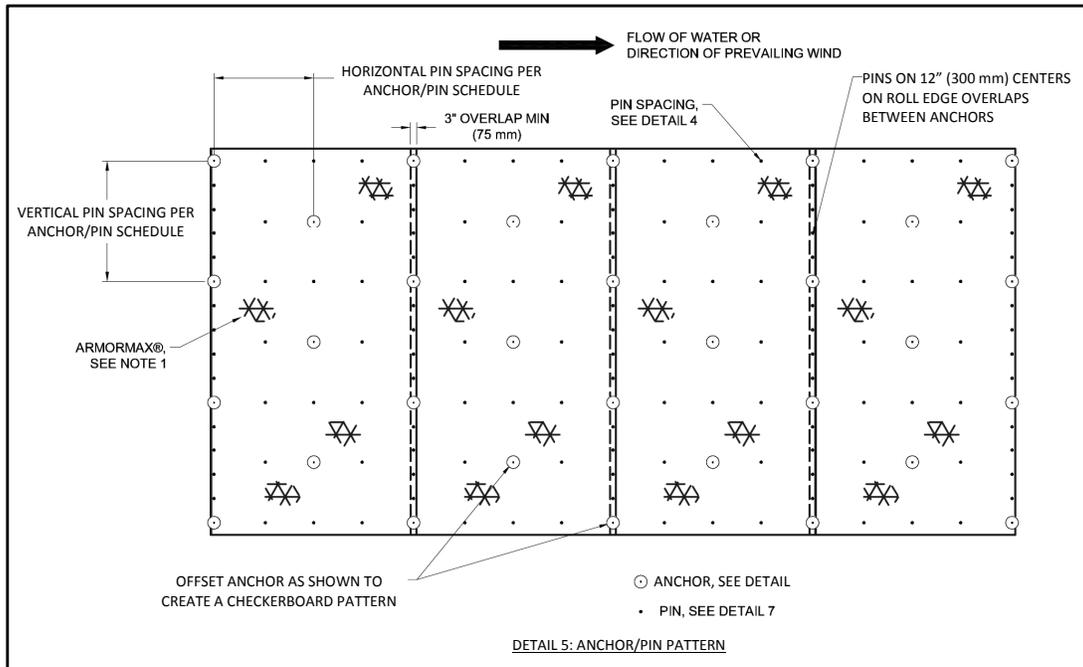

**Figure 6: Placement of ARMORMAX across Slope**
5. Unroll the ARMORMAX roll on the slope surface in the area to be armored (Figure 6). Ensure that ARMORMAX has intimate contact with the ground and all irregular surfaces beneath ARMORMAX are removed.